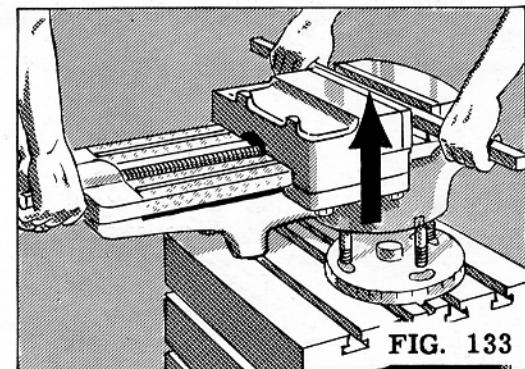

FIG. 133
NOTE: A bar can be gripped between the vise jaws in order to provide handles for lifting the vise more conveniently (Fig. 133).
3. Lift the vise so that the bolts clear the base and place it on a bench or a suitable tool stand (Fig. 133).